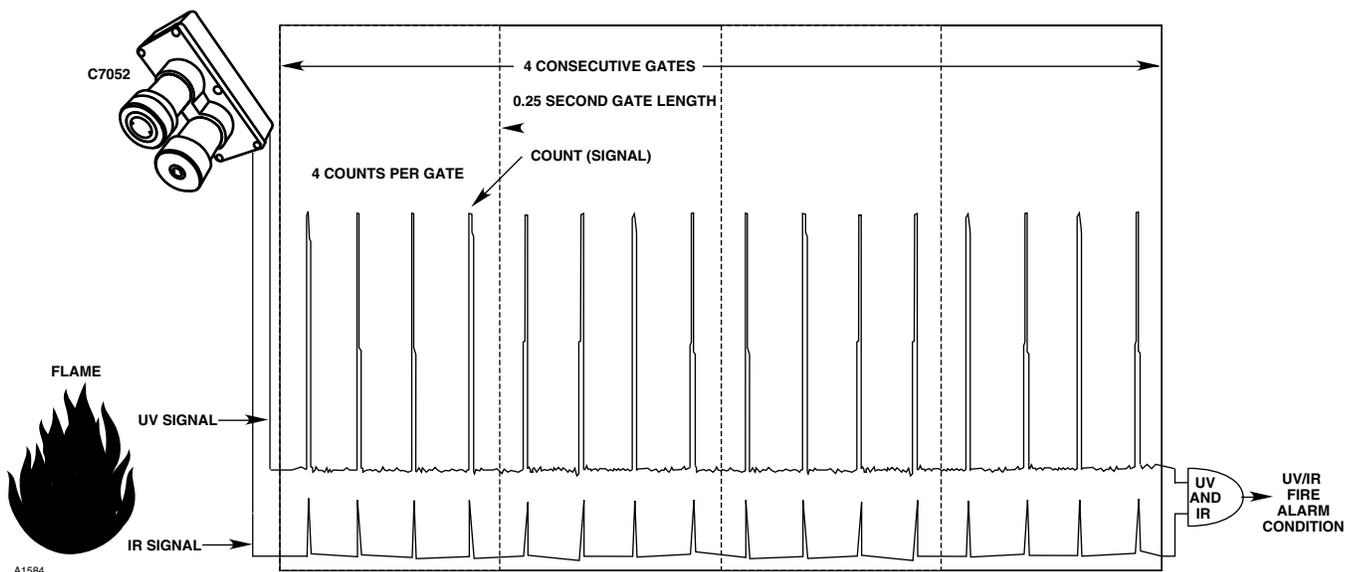

Figure 21—Graphic Representation of STAR Logic (Typical Setting Shown)
The most effective way to set system sensitivity is to install the system, program the STAR Logic according to the typical settings shown in Figure 21, program all other aspects of controller operation according to this section ("Programming the Controller"), then perform the "Initial and Periodic Checkout Procedure" using a UV/IR test lamp and the "STAR Programming Checkout Procedure.". If the system fails to respond appropriately during these tests and all system wiring is correct, then system sensitivity (gate length, counts per gate, and consecutive gates) needs to be adjusted. It is important that all wiring and programmed settings be checked to ensure that they are correct before adjusting these settings.
Rocker switch assemblies 2 and 3 control three variables; gate length, counts per gate and consecutive gates required for a fire output. Refer to Figure 21 for a visual representation of how these variables function together with typical controller settings. Keep in mind that when the UV and IR sensors of the detector respond to a fire, the IR sensor activates the circuitry in the UV/IR detector junction box. This allows the electrical pulses (signal) from the UV sensor to be sent to the controller. The frequency of this signal is proportional to the intensity of the fire. The controller looks at this signal in comparison to the sensitivity settings in order to determine whether a fire exists. A brief description of each variable follows:
1. Gate Length is adjustable from 31.25 milliseconds to 8 seconds. The gate length is the increment of time that the controller looks at the detector signal to determine if the "Counts per Gate" requirement is fulfilled. In Figure 21, the gate length is 0.25 seconds (Rocker Switch 2-4 closed, Rocker Switches 2-1, 2-2, 2-3, 2-5, 2-6, 2-7, and 2-8 open).
2. Counts per Gate is adjustable from 2 to 15 counts. These counts make up the signal from the detector and are a direct response to a flame or other UV/IR source. In Figure 21, the counts per gate setting is 4 counts (Rocker Switch 3-3 closed, Rocker Switches 3-1, 3-2, and 3-4 open).
3. Consecutive Gates required for a fire output are adjustable from 2 to 15 gates. This is the number of consecutive gates in which the "Counts per Gate" requirement is fulfilled that the controller must see before going into a fire alarm condition. In Figure 21, the consecutive gates setting is 4 gates (Rocker Switch 3-7 closed, Rocker Switches 3-5, 3-6, and 3-8 open).